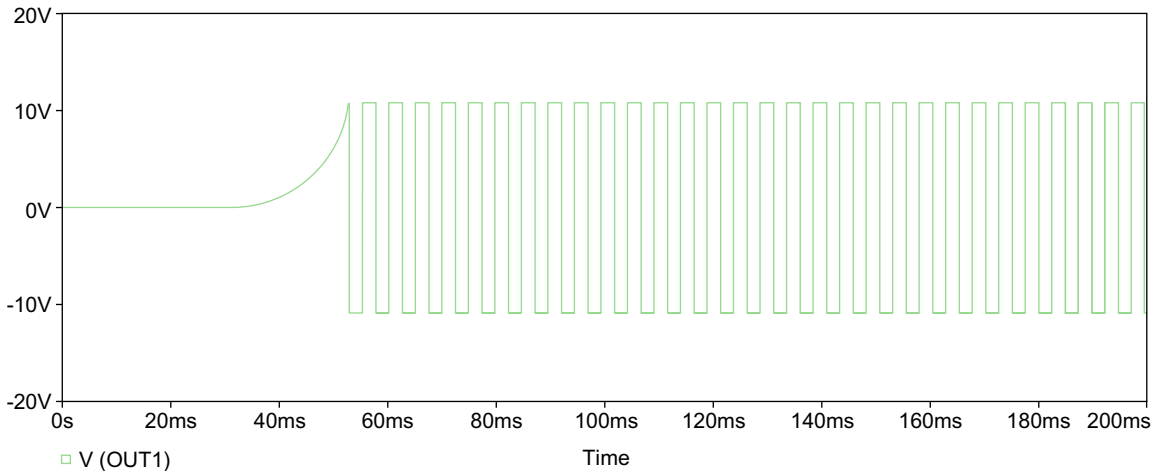

FIGURE 20.39
9. Modify the RVAL to 100k and run the simulation. You should see a different oscillator period displayed in Probe, as shown in Figure 20.39.